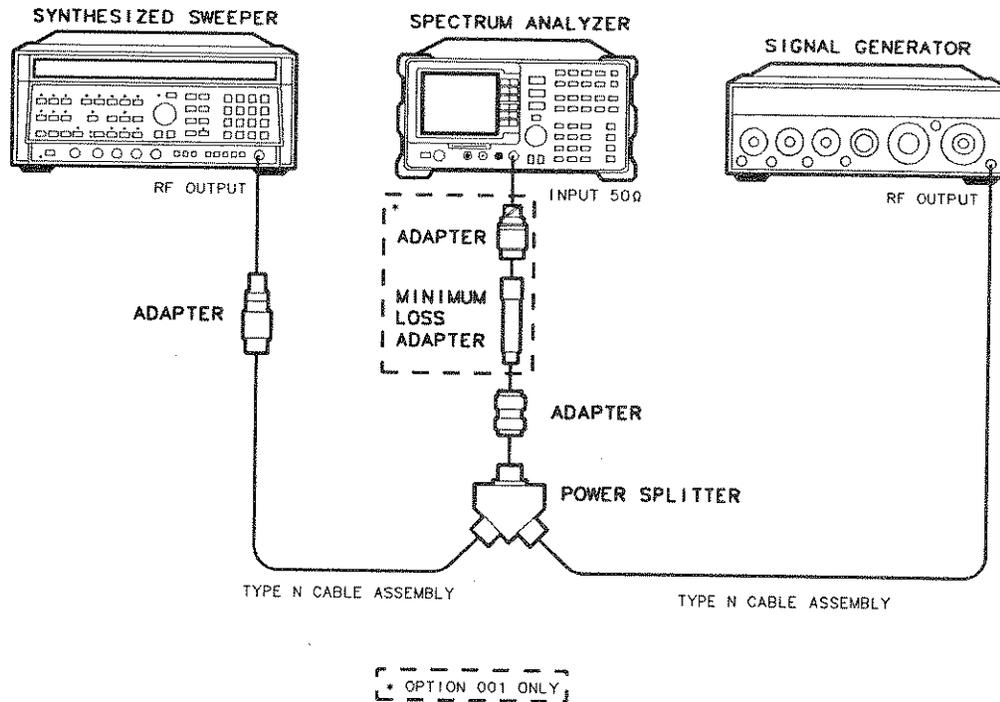

Figure 3-6. Frequency Span Accuracy Test Setup
1. Connect the equipment as shown in Figure 3-6. Note that the Power Splitter is used as a combiner. *Option 001 only:* Connect the minimum loss adapter to the INPUT 75Ω using the appropriate adapters.